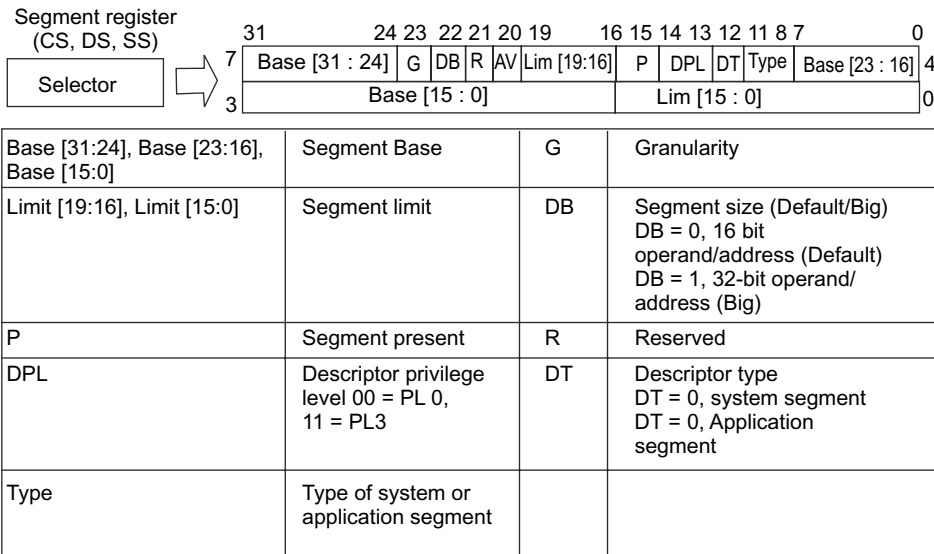

Fig. 12.20 Segment descriptors
The global descriptor table (GDT) is a list in memory which describes the segment sizes and addresses in memory in terms of segment descriptors. Each segment descriptor has 8 bytes as shown in Fig. 12.20. The global descriptor table holds segments available to all tasks, but the local descriptor table (LDT) is only available to the currently active task. The segment descriptor provides the 32-bits segment base address (Base [31:24], Base [23:16], and Base [15:0]) and 20-bits limit (Limit [19:16] and Limit [15:0]) for the size of the segment. The function of other fields of the segment descriptor are given in Fig. 12.21. The 20-bits of the limit field can be used to represent either a memory size of up to 1 MByte or up to 4 GByte, depending on the granularity (G) bit. When G = 0, byte granularity means that the 20 bits represent 1 Mbyte. If G = 1, the granularity is 4K in size and it represents 20 bits × 4K = 4 Gbyte. The DB bit is used to make instructions as either 32-bit instructions or 16-bit instructions. For example, a 32-bit instruction is *mov eax, mem32* when DB = 0 and a 16-bit instruction is *mov ax, mem32* if DB=1.